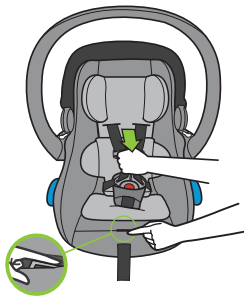

Figure 13
- Press down on Harness Adjuster Tab and pull out on Shoulder Harness Straps, as shown in **Figure 13**. The Harness Adjuster Tab is accessible through the slot sewn into the fabric between the Harness Adjuster Strap and the Crotch Strap.